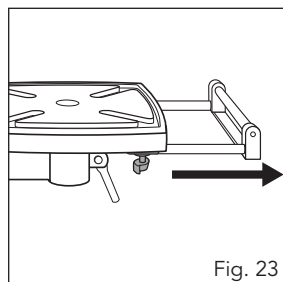

Fig. 23
1. Loosen the thumb screws to extend the roller support (19).
2. Re-tighten thumb screw when the roller support (19) is in the desired position (Fig. 23).